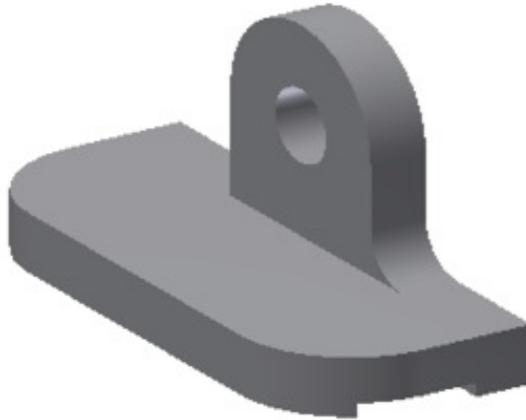

Figure 6-159 Model after creating one of the fillet features
3. Enter **10** in the **R:** edit box of the mini toolbar and choose **OK**. Alternatively, enter **10** in the **Radius** column of the **Fillet** dialog box and then choose **OK**. The fillet feature is created, as shown in Figure 6-159.